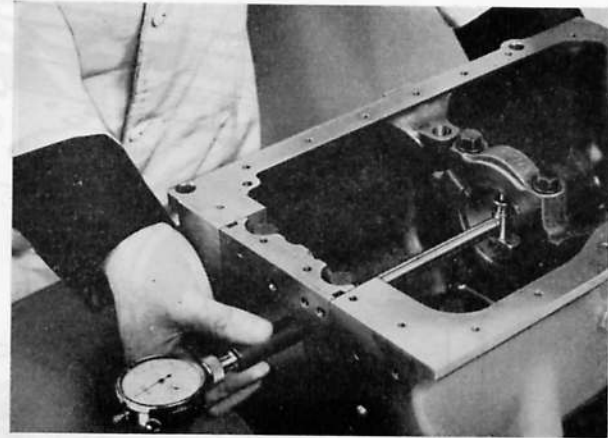

Fig. A.50. Checking the vertical diameter of a main bearing housing bore with a cylinder gauge used in conjunction with a micrometer
7. Check the main bearing housing bores to ensure that the caps have not been filed. Assemble the caps to the crankcase without the bearings, and after tightening the bolts to the specified torque, measure each bearing housing bore vertical diameter with a cylinder gauge (Fig. A.50).